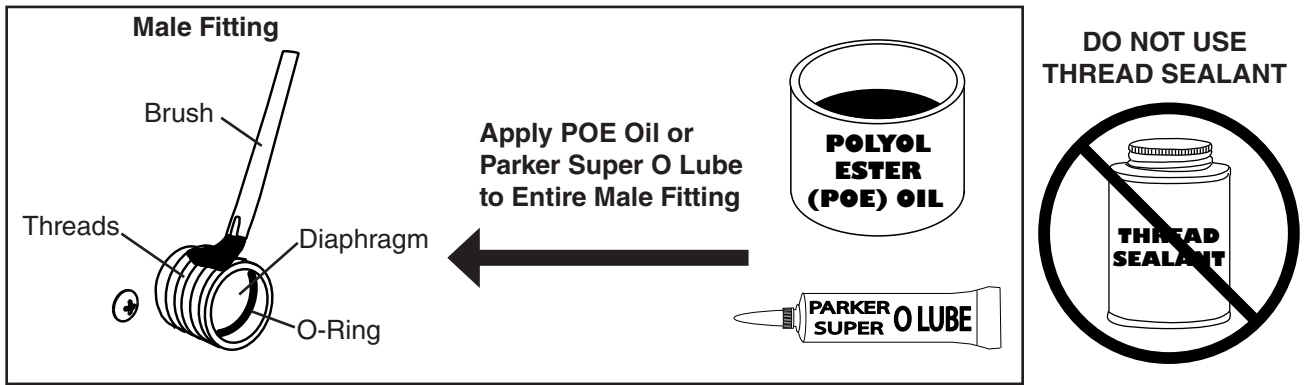

Fig. 15
- b. Apply Polyol Ester (POE) refrigerant oil or Parker Super O Lube to the entire male fitting, including O-ring, diaphragm, and threads before making the connection. See Fig. 15.